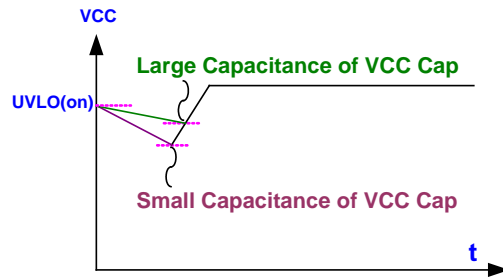

Fig. 14
2. Increase VCC capacitance to improve VCC's performance in dropping at startup transient, shown as Fig 14.